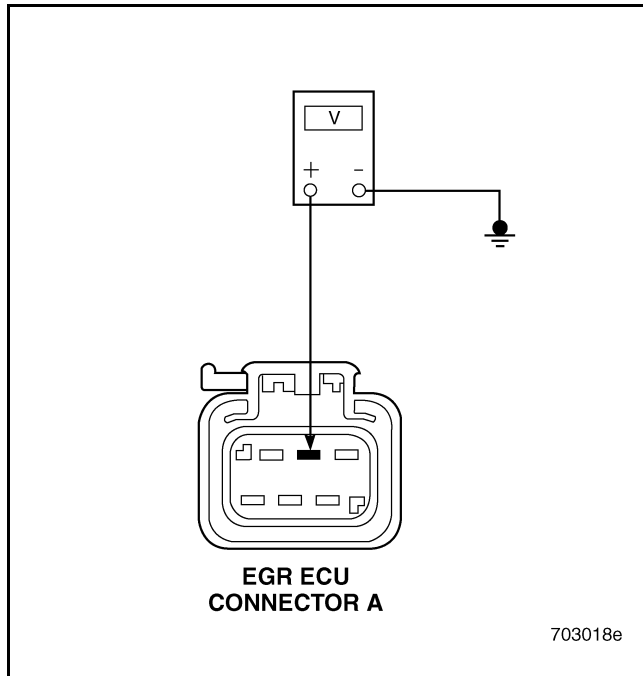

Figure 591
3. Check for battery voltage (+12V) between pin 2 of EGR ECU connector A and a known good ground (see Figure 591).